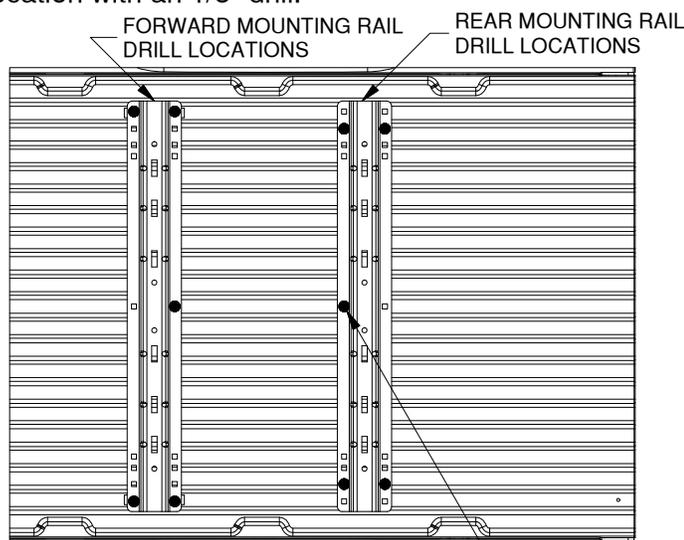

Figure A2: Detail view over bed, showing drill locations for the forward and rear bed rails.
- 2. Mark hole locations:** While carefully ensuring the mounting rail does not move, use a center punch tool to mark the 5 drill locations on the rear rail. See figure A2 for hole marking locations for this installation (forward rails will install on a later step). Once all 5 rear rail locations are clearly marked, move the bed rail out of the way and drill each location with an 1/8" drill.
- 4. Drill forward mounting holes.** Using the same methods as used for the rear mounting rail, mark, drill, check, and enlarge the holes for the forward mounting rail. Refer to "DRILL REAR MOUNTING HOLES" section, steps 2 through 4, on a previous page. Notice that the hole locations are slightly different than the rear rail, see figure A2 (on the second page).